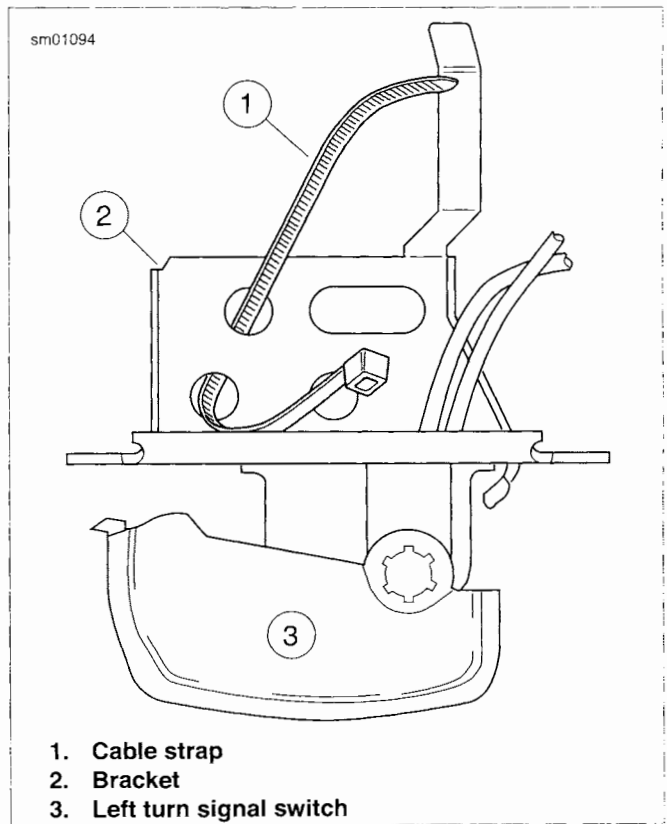

Figure 7-105. Insert Cable Strap in Switch Bracket
1. See Figure 7-105. Insert tapered end of **new** 7.0 in. (177.8 mm) cable strap (1) into round hole in turn signal switch bracket (2) and then feed back through using the adjacent hole. Reserve the oblong hole for the bracket screw.